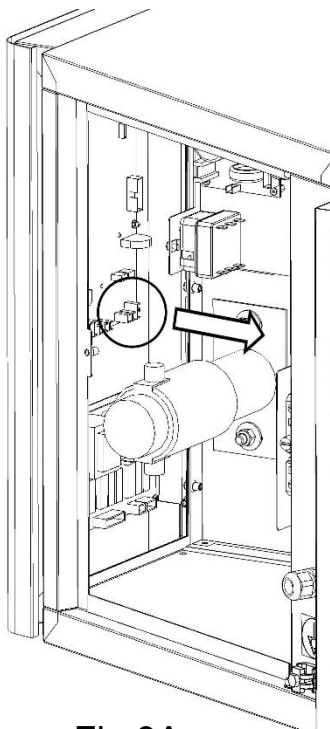

Fig.9A
- 3.Disconnect the electrical connections to the base board (Fig.9A).